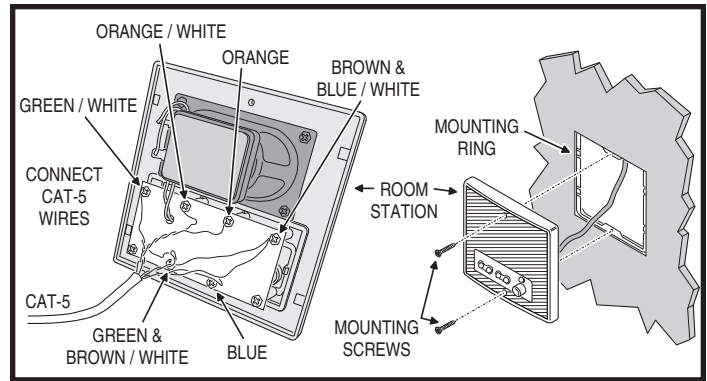

Figure 3. Attaching Room Station
4. Mount each Room Station to its mounting ring using the two screws provided with each DMC1 Room Station as shown in Figure 3.